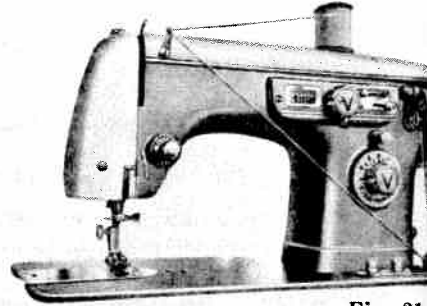

Fig. 21
2. Place a spool of thread on the spool pin. Draw thread from the spool over arm guide down ward across machine from left to right. (Fig. 21)